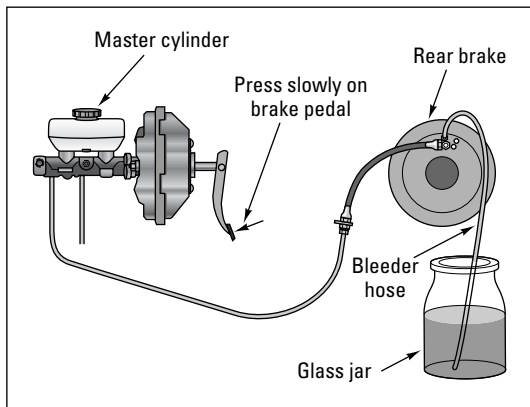

Figure 15-10: How to bleed your brakes.
4. Have your friend slowly pump your brake pedal a few times (see Figure 15-10). Have your friend say "Down" when pressing the brake pedal down and "Up" when releasing it.